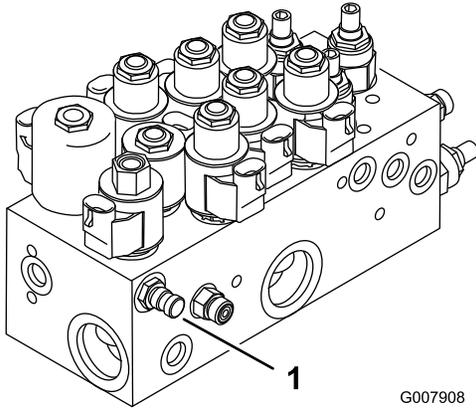
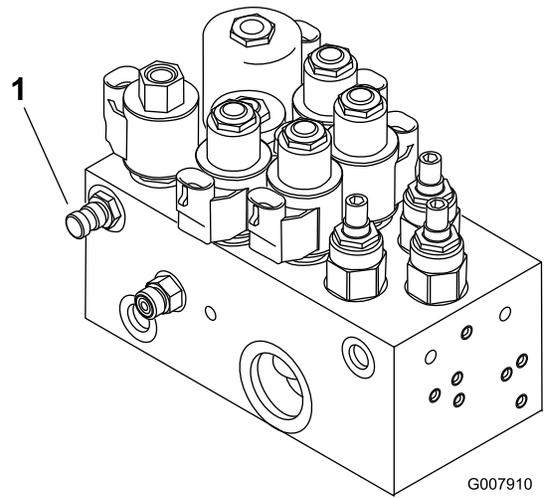

Figure 78
Figure 79
1. Test Port A (Figure 78 and Figure 79) is used to assist in trouble shooting the hydraulic circuit for the lift cylinders.